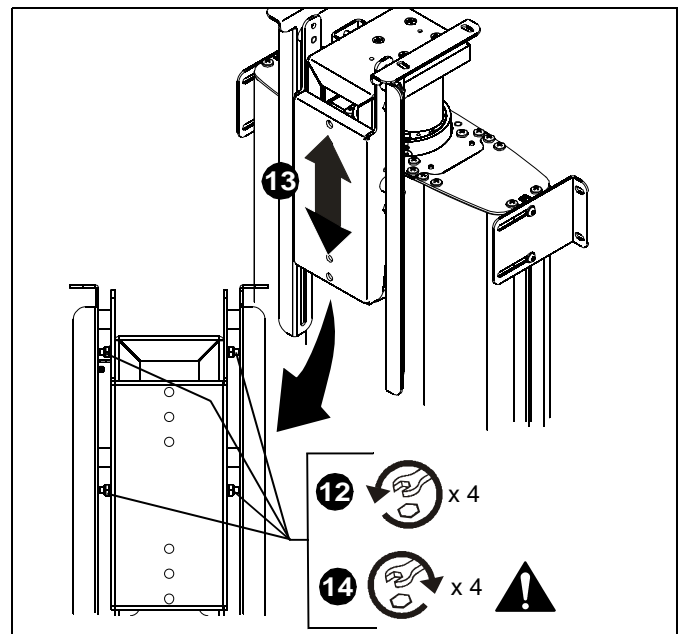

Figure 6
12. Loosen four nuts securing faceplate mounting bracket to frame. (See Figure 6)
13. Slide faceplate mounting bracket upward desired amount. (See Figure 6)
14. Tighten four nuts to secure faceplate mounting bracket to frame. (See Figure 6)